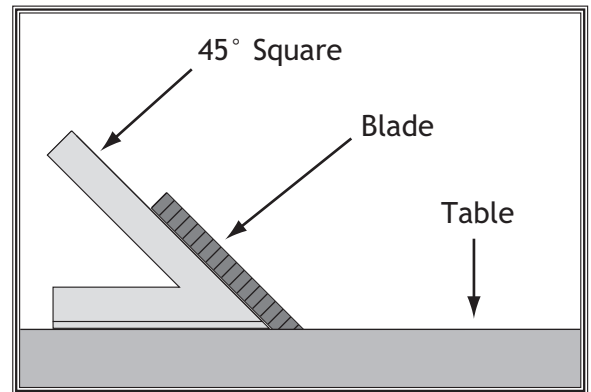

Figure 101. Checking blade at 45°.
3. Place a 45° square against table and blade so it contacts blade evenly from bottom to top, as shown in **Figure 101**. Make sure a blade tooth does not obstruct placement of square.